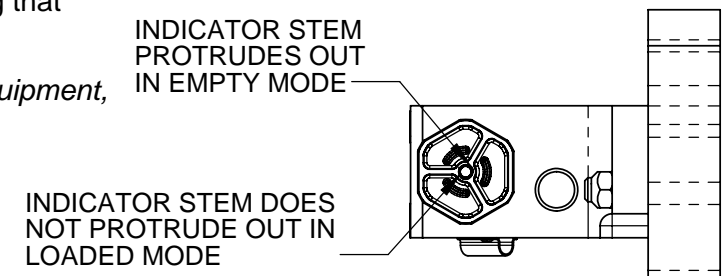

FIGURE 4
- 6) Replace the ¼-inch Pipe Plug, using a pipe thread sealant, and set the brakes making a 30-psi reduction. Coat the Pipe Plug with soap suds to detect leakage - checking to see that the Indicator Stem **is** protruding from Part No. 31800, Proportional Valve (see Figure 4), then release the brakes and note Sensor Arm retract upward.
- 7) Place a 2 ¼-inch thick block on the side frame, and make a 30-psi reduction - making sure the Adjusting Screw is contacting the top of the block and, also, making sure the Indicator Stem **is not** protruding from Part No. 31800, Proportional Valve (see Figure 4). Release the brakes, noting that the Sensor Arm retracts toward its released position.